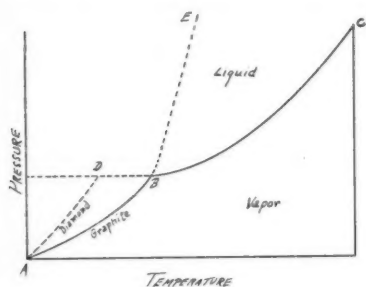

FIG. 1
Carbon, at atmospheric pressure, volatilizes at approximately 3600° C. without passing through the liquid state. If sufficient pressure could be applied carbon on melting would assume the liquid state and crystallize on cooling. According to Smits (2) the liquid would have a vapor pressure represented by the line BC in Fig. 1, and the solid a vapor pressure denoted by line AB. The vapor pressure of the diamond would be represented by AD where D is the melting point of the diamond. Line BE shows the relation between the melting point of carbon and pressure.